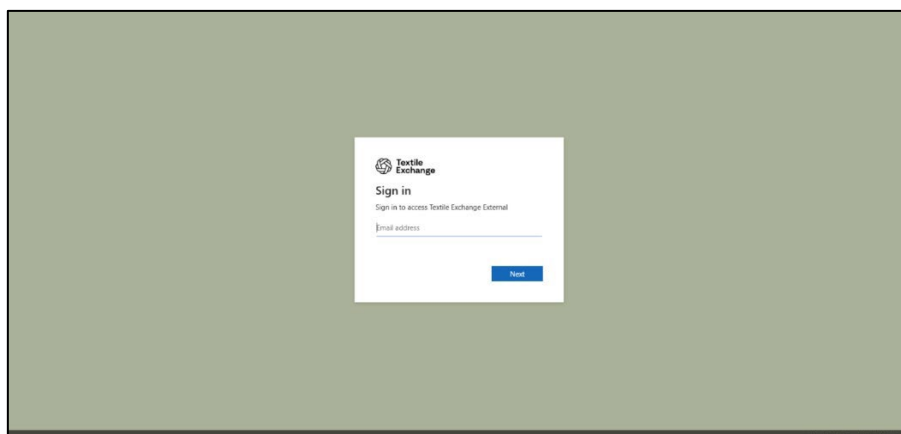

Figure 2: Material ledger user interface login page.
4. You will be redirected to the material ledger user interface login page, as shown in Figure 2.